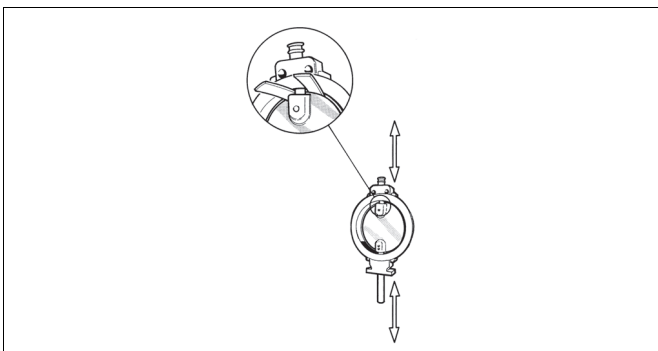

Fig. 14 Protecting the disc during disassembly and assembly
- Drill the holes carefully to the centre of the pins (14). Choose a drill 0.2-0.5 mm smaller than the diameter of the pin.
- Dismantle the gland packing including anti-extrusionring (22) and sheet ring (21) according to Section 5.2.
- Detach the screws (26) and the blind flange (10) and remove the gasket (18).
- Place rubber strips or other protection between the disc edge and the body and remove the shafts (see Fig. 14).
- Place the disc horizontally on a surface so that the flat side of the disc lays against the surface. Lift the body around the disc so that the shaft bores are aligned with the bores in the disc. Protect the disc (see Fig. 14).